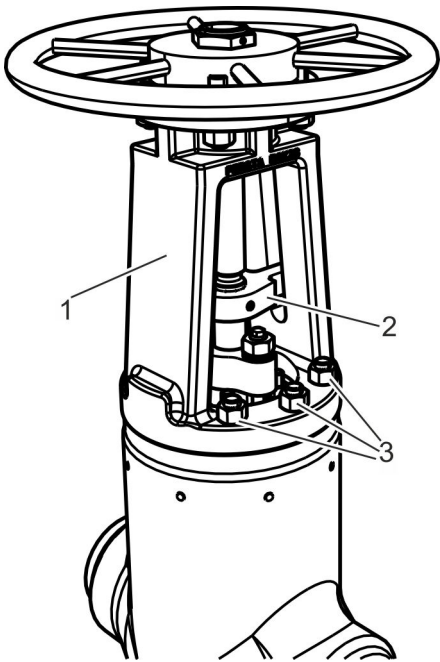

Fig. 25: Bonnet and anti-twist device
13. ▶ Mount the bonnet (Fig. 25/1).
Attach the fastening screws (Fig. 25/3) of the bonnet and tighten in a cross pattern as specified by the manufacturer.